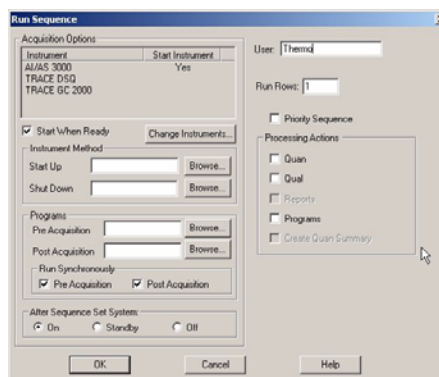

Figure 3-10 Sequence Setup - Run Sequence Screen
- 3 Start the Run, by selecting **OK** from the **Run Sequence screen** (Fig. 3-10).
3 Select **OK** from the **Run Sequence screen** (Fig. 3-10) to start the run.